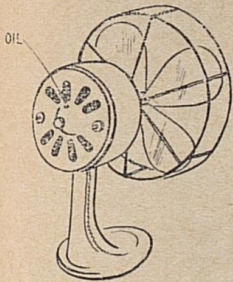

Fig. 35
1. With bearings of the type shown in Fig. 35, use 2 or 3 drops of electric motor oil in each bearing daily.